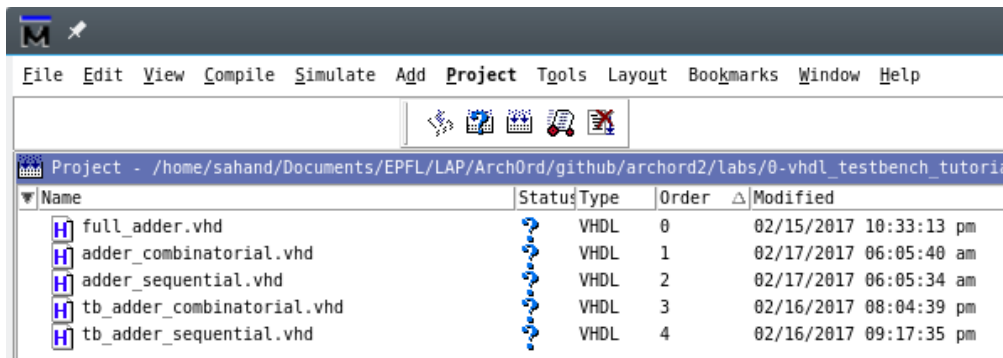
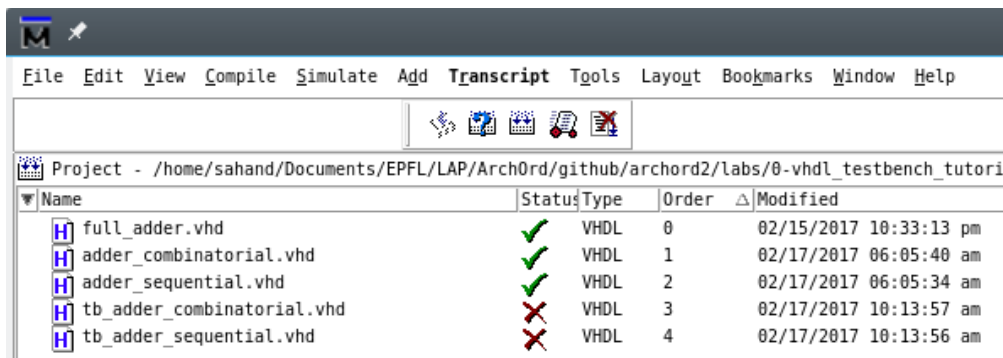

Figure 4: Files added to project
Figure 5: Compiling all files (empty testbenches)
3. Click on the **Add Existing File** button and add all files in the **vhdl** and **testbench** directories to the project (Figure 3b). You should obtain something similar to Figure 4.
- Click on the  icon to compile all sources. The RTL files will compile successfully, but the testbenches will fail to compile (Figure 5). This is normal as the testbench files are empty, so ModelSim does not detect any entity to compile.
If your output is not as in Figure 5, then it means you have added the various VHDL files in a different order from that shown in Figure 4 ("Order" column). You can solve this issue by clicking a few more times on the  icon until ModelSim correctly determines the right compile order of the VHDL files based on their dependencies.